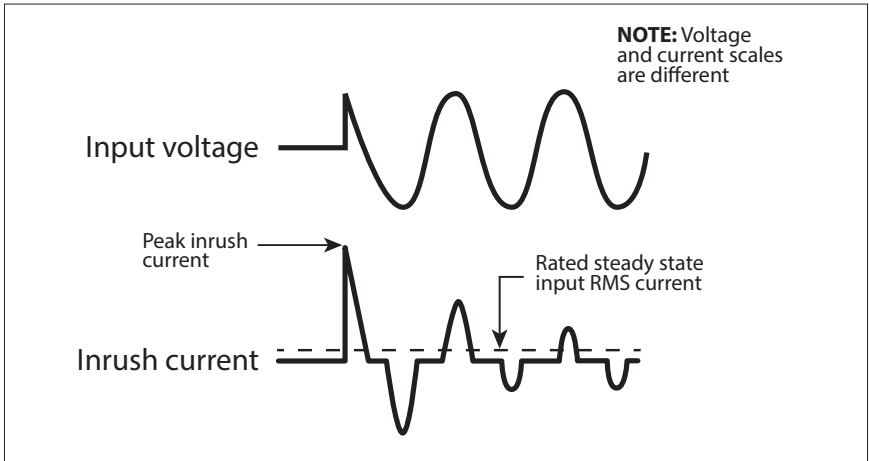

Fig 4.1: Inrush current in an SMPS
- **AC to DC Switched Mode Power Supplies (SMPS):** This type of power supply is used as stand-alone power supply or as front end in all electronic devices powered from Utility / Grid e.g. in audio/video/ computing devices and battery chargers (Please see Section 4 for more details on SMPS). When this power supply is switched ON, its internal input side capacitors start charging resulting in very high surge of Inrush Current for a few milliseconds (Please see Fig 4.1). This surge of inrush current / power may reach up to 15 times the Continuous Maximum Running Power Rating. The surge of inrush current / power will, however, be limited by the Surge Power Rating of the AC source.
Switch Mode Power Supplies (SMPS) are extensively used to convert the incoming AC power into various voltages like 3.3V, 5V, 12V, 24V etc. that are used to power various devices and circuits used in electronic equipment like battery chargers, computers, audio and video devices, radios etc. SMPS use large capacitors in their input section for filtration. When the power supply is first turned on, there is a very large inrush current drawn by the power supply as the input capacitors are charged (The capacitors act almost like a short circuit at the instant the power is turned on). The inrush current at turn-on is several to tens of times larger than the rated RMS input current and lasts for a few milliseconds. An example of the input voltage versus input current waveforms is given in Fig. 4.1. It will be seen that the initial input current pulse just after turn-on is > 15 times larger than the steady state RMS current. The inrush dissipates in around 2 or 3 cycles i.e. in around 40 to 60 milliseconds for 50 Hz sine wave.